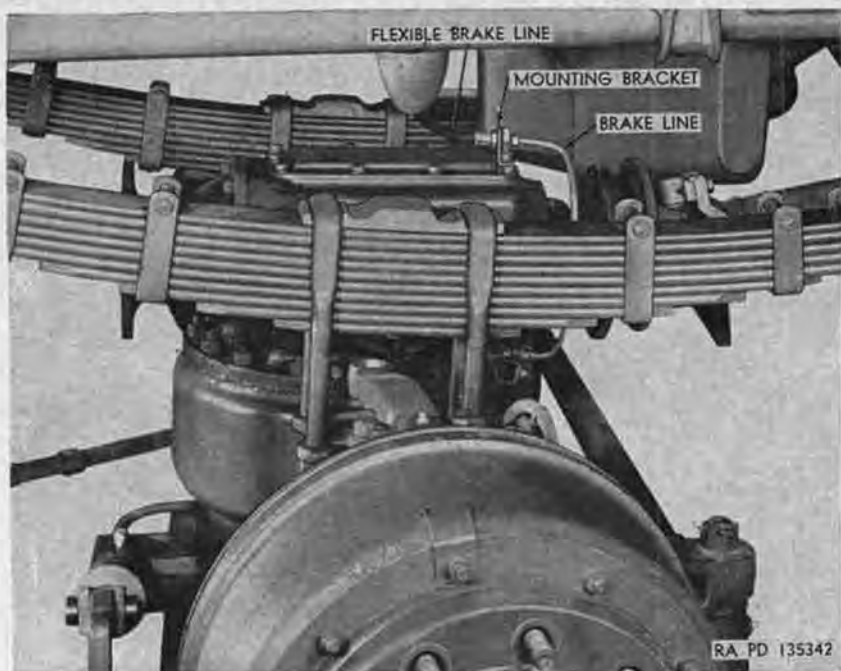

Figure 226. Front axle lowered for disconnecting flexible brake line.
- (8) *Disconnect brake line* (fig. 226). Lower axle, unscrew connector securing rigid brake line to flexible brake line at bracket on top of differential housing, and separate lines. Remove cap screw securing bracket to top of differential housing, and remove flexible brake line and bracket from housing.
- (2) *Connect brake line* (fig. 226). Position flexible brake line and bracket on top of differential housing, install cap screw, and tighten. Position rigid brake line at flexible brake line, and tighten connector.